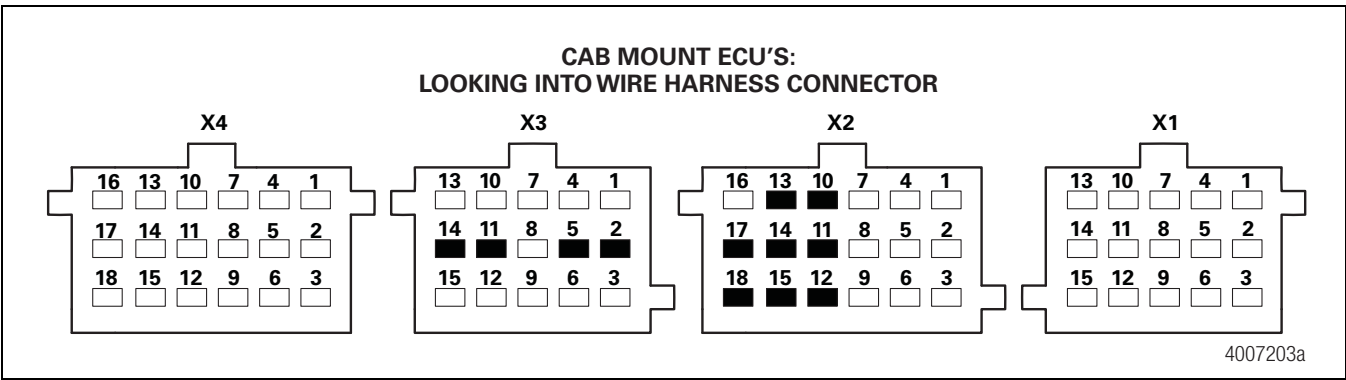
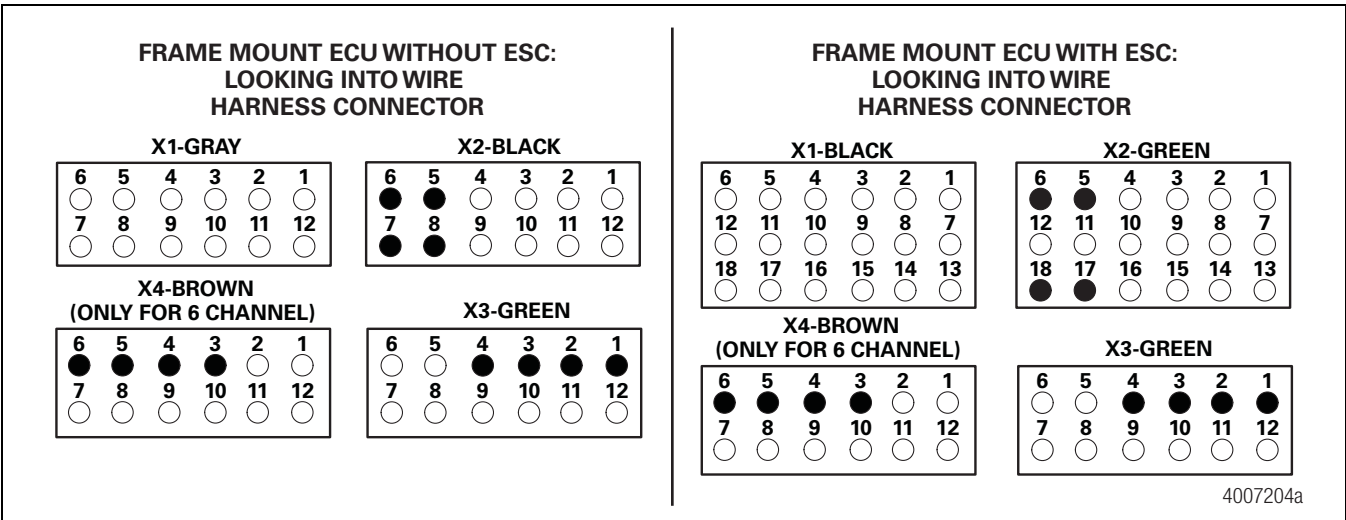

Figure 3.14
Figure 3.15
- Check ECU harness and sensor together for resistance. Figure 3.14 and Figure 3.15.